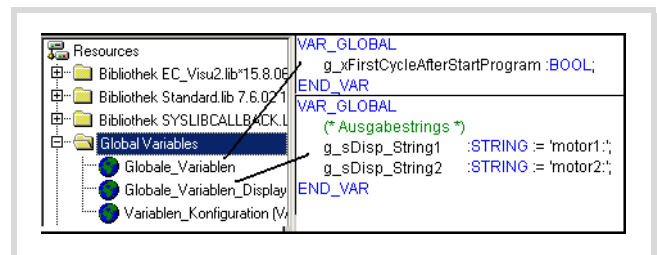

Figure 95: Declaration of display variables
- Declaration of the (display) variables to display entry in the list "Global_Variables_Display" → figure 95
- First declare for each text element that you wish to display, such as "motor1", a variable of type "String" in the "Global_Variables_Display" list as shown in the following example (see also figure 95):
- Set an auxiliary variable "g_xFirstCycleAfterStartProgram" in this program that you reset after the first cycle is completed. The auxiliary variable must be declared globally → figure 95.